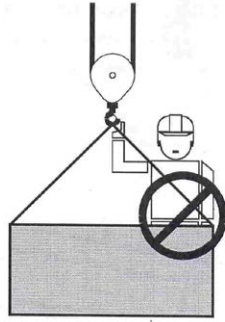

Figure 8.8: Do not allow anyone to ride on hook, boom, or load.
- Do not allow personnel to ride the hook, boom, or load (Figure 8.8).